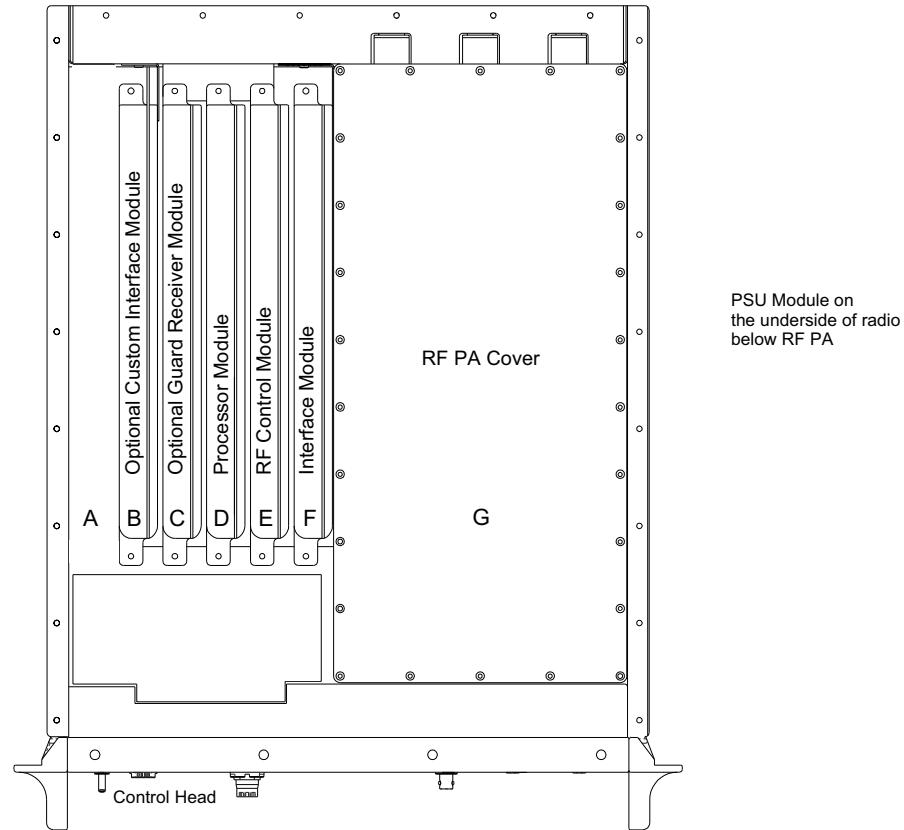
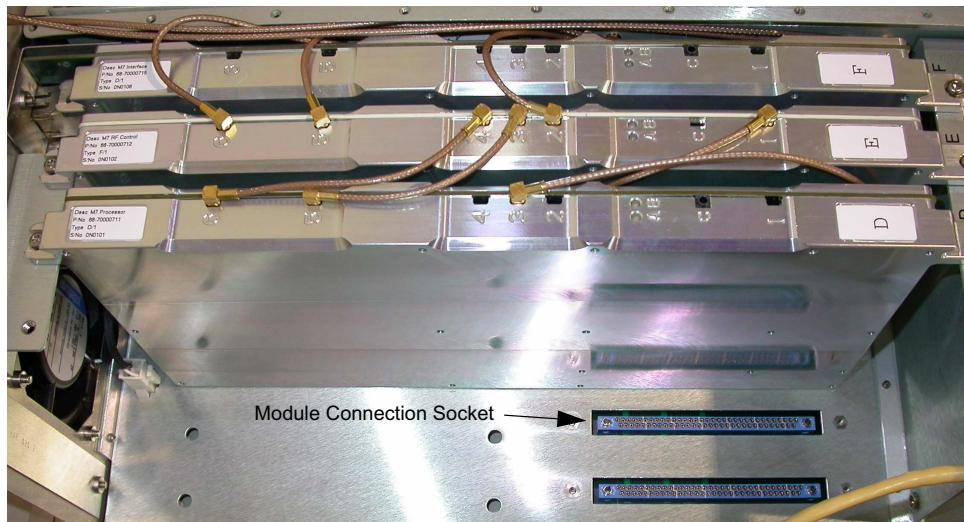
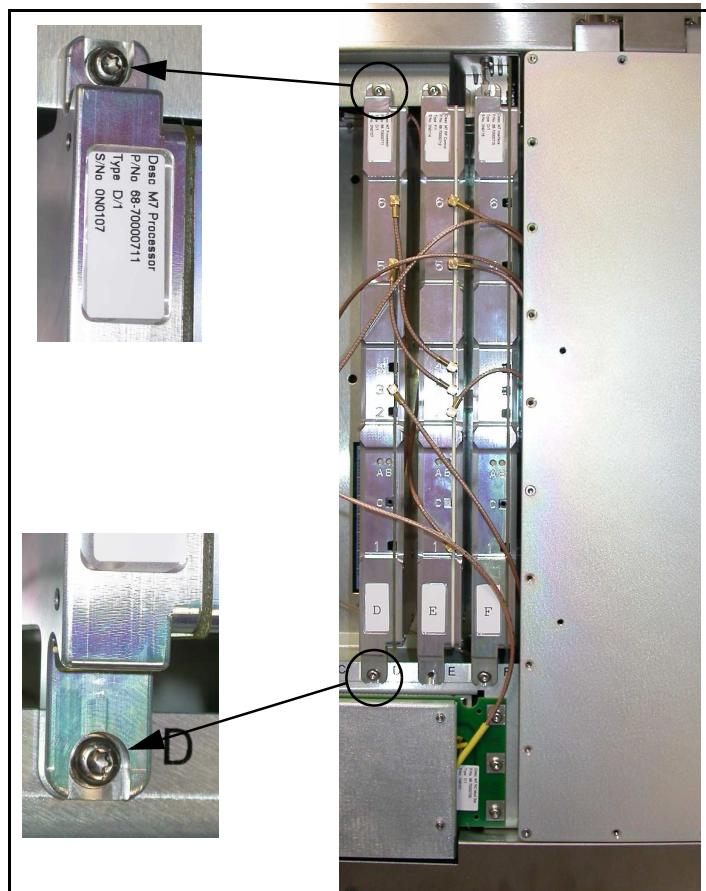

Fig 5-14 Module Layout
Fig 5-15 Module Connection Socket
Fig 5-16 Module B to F Securing Screws
The radio contains a number plug-in modules. These are listed below and are located as shown in Fig 5-14. Note that after replacing any module, the build status requires amendment – see Data Loader Application starting on page 5-39.
Modules B to F each mate with a multi-way socket fitted on the chassis base. The module connection sockets are shown in Fig 5-15.
Modules B to F are secured in position using two screws as shown in Fig 5-16.
- (1) Remove the radio's top cover as detailed on page 5-12.
- (2) Refer to Fig 5-14 on page 5-18 and identify the Custom Interface module's position (Module B).
- (3) Using a Torx T15 screwdriver, remove and retain the front and rear module securing screws (Fig 5-16 on page 5-19).
- (4) Carefully lift the module disconnecting it from its socket (Fig 5-15 on page 5-19).
- (5) Place the replacement module in position and press down to ensure it is fully located in the chassis socket.
- (6) Fit and tighten the front and rear module securing screws (Fig 5-16 on page 5-19).
- (7) Refit the radio's top cover (see page 5-12).
- (8) Connect the radio to a PC using the Lemo to USB cable.
- (9) Reapply input power to the radio.
- (10) Download the Custom Interface module software from the Park Air radio software CD. Instructions for downloading software are given under the heading 'Data Loader Application' starting on page 5-39.
- (2) Refer to Fig 5-14 on page 5-18 and identify the Guard Receiver module's position (Module C).
- (3) At the Guard Receiver module, disconnect CN6; this cable connects the module to the RF PA connector CN7.
- (4) Using a Torx T15 screwdriver, remove and retain the front and rear module securing screws (Fig 5-16 on page 5-19).
- (5) Carefully lift the module disconnecting it from its socket (Fig 5-15 on page 5-19).
- (6) Place the replacement module in position and press down to ensure it is fully located in the chassis socket.
- (7) Fit and tighten the front and rear module securing screws (Fig 5-16 on page 5-19).
- (8) At the Guard Receiver, reconnect the cable at CN6.
- (9) Refit the radio's top cover (see page 5-12).
- (10) Connect the radio to a PC using the Lemo to USB cable.
- (11) Re-apply input power to the radio.
- (12) Download the Guard Receiver module software from the Park Air radio software CD. Instructions for downloading software are given under the heading 'Data Loader Application' starting on page 5-39.
- (2) Refer to Fig 5-14 on page 5-18 and identify the Processor module's position (Module D).
- (3) At the Processor module, disconnect the three cables listed in Table 5-3.
- (4) Using a Torx T15 screwdriver, remove and retain the front and rear module securing screws (Fig 5-16).
- (8) At the Processor module, reconnect the three cables listed in Table 5-3.
- (11) Reapply input power to the radio.
- (12) Download the Processor module software from the Park Air radio software CD. Instructions for downloading software are given under the heading 'Data Loader Application' starting on page 5-39.